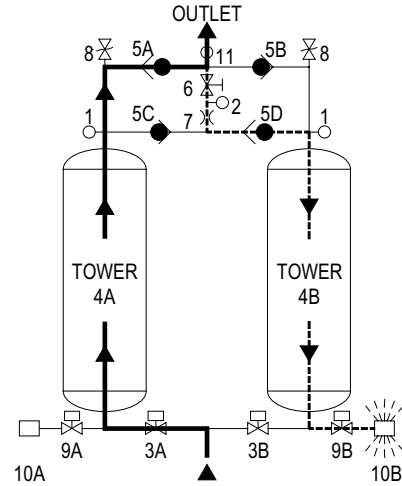

FIGURE 3-2a
(Refer to Fig. 3-2a.) Compressed air flows through inlet switching valve (3A) (normally open) to tower (4A) where the air is dried. After the air is dried it flows through outlet check valve (5A) and then to the dryer outlet. A portion of the dry air, the purge stream, branches off from the main air stream prior to the outlet. The purge stream flow rate is controlled by the adjustable purge rate valve (6) and the single purge orifice (7).